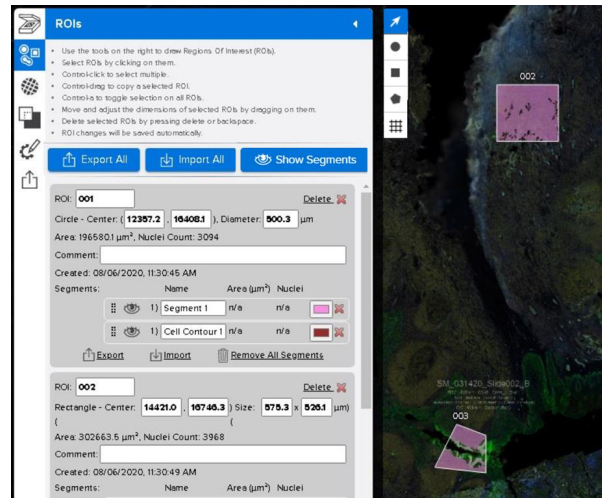

Figure 37: Scan Workspace ROIs List with Export Image link
- From the ROIs List (see Figure 37), select the **Export All** button to export all ROIs for custom segmenting. Alternatively, export one individual ROI using the **Export** button below the ROI.